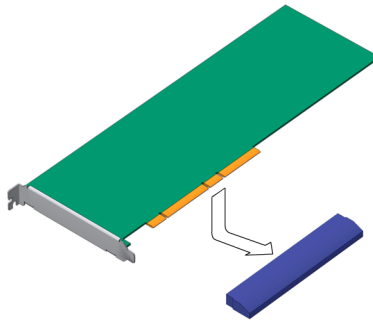

FIGURE 4-6 Installing the PCI-E Card Into the PCI Tray
5. Lower the PCI-E card into position on the PCI tray, then slide it to the right to seat it into the connector (FIGURE 4-6).